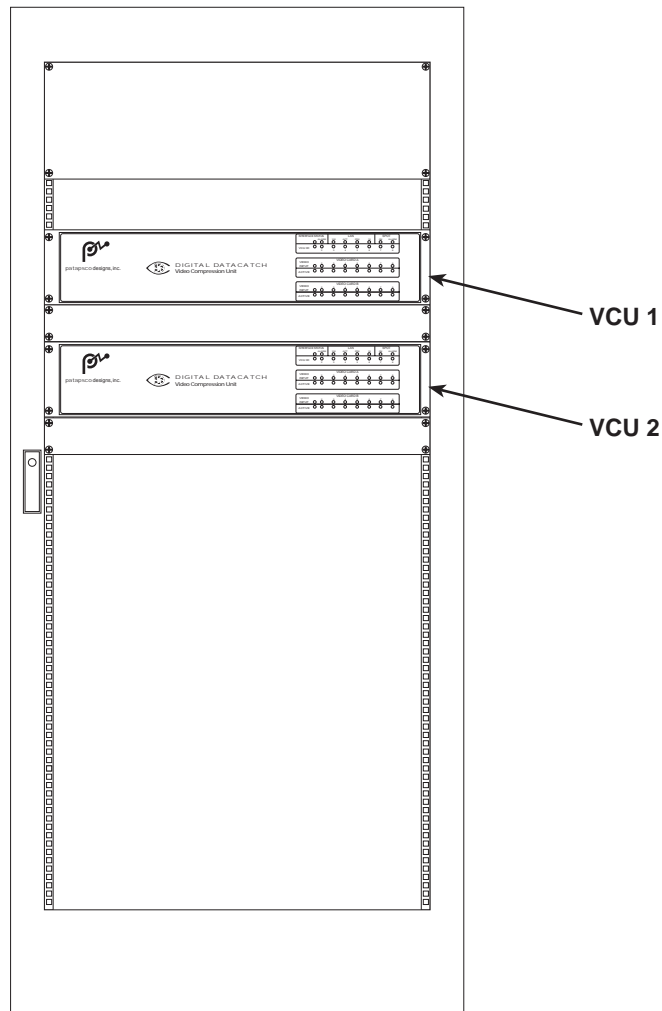

Figure 20. VCU installation locations
- Using the rack mounting hardware, install VCU 1 in the cabinet at the location shown in figure 20.